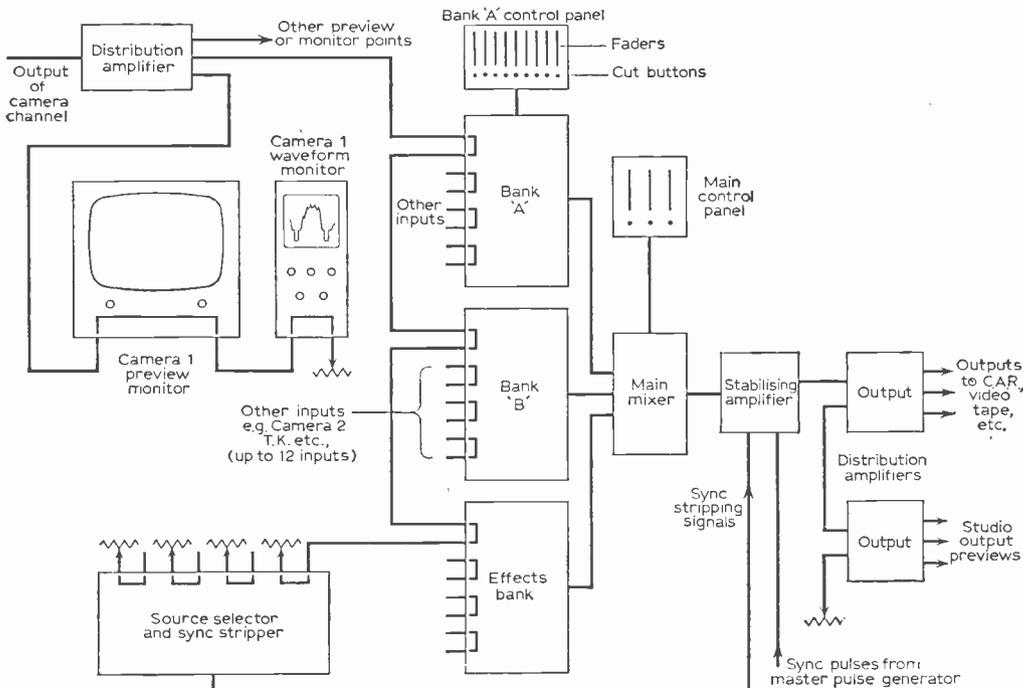

Fig. 4: Studio vision mixing arrangement.
Other equipment in the apparatus room is the actual vision mixing unit and all electronic apparatus for the studio. After processing in the C.C.U., three vision outputs are fed (1) to the vision mixing unit, (2) to monitors stacked in the various control rooms and (3) for previews at various pluggable monitor points (see Fig. 4).